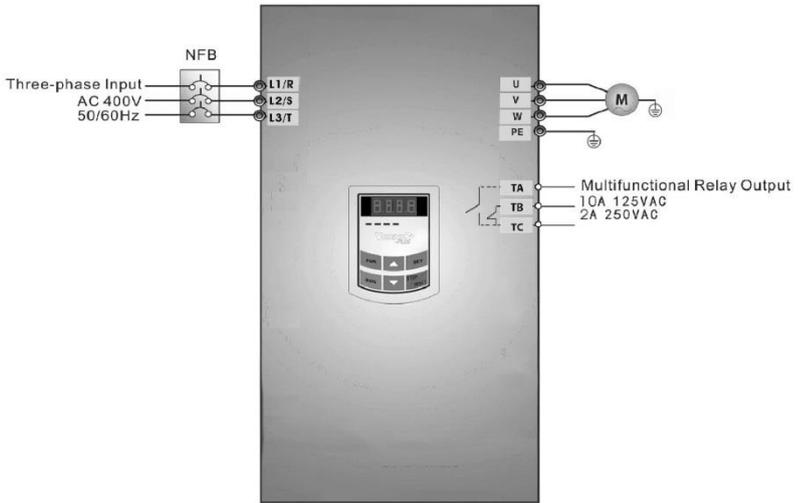

Figure 5-7 Wiring Diagram 1
- (1) Connect the wires in accordance with Figure 5-7. After having checked the wiring successfully, switch on the circuit breaker, and power on the inverter.
- (2) Press the “Fun” key, to enter the programming menu.
- (3) Auto-tune
- (1) Connect the wires in accordance with Figure 5-7. After having checked the wiring successfully, switch on the circuit breaker, and power on the inverter;
- (2) Press the “Fun” key, to enter the programming menu
- (3) Study the parameters of the motor: the operation process is the same as that of example 1.
- (4) Set functional parameters of the inverter:
- (2) Press the "Fun" key, to enter the programming menu.